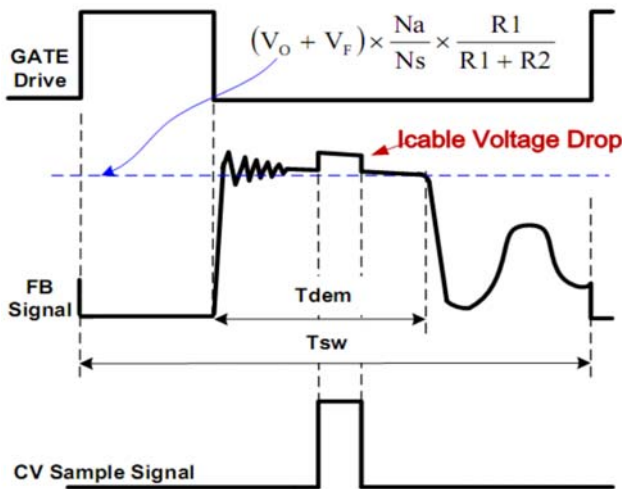

Fig.2
In primary side control, the output voltage is sensed on the auxiliary winding during the transfer of transformer energy to the secondary. Fig.2 illustrates the CV sampling signal timing waveform in U6773S. As shown in Fig.2, it is clear that there is a down slope representing a decreasing total rectifier  $V_f$  and its voltage drop as the secondary current decreases to zero. To achieve an accurate representation of the secondary output voltage on the auxiliary winding, the CV sampling signal blocks the leakage inductance reset and ringing. When the CV sampling process is over, the internal sample/hold (S&H) circuit captures the error signal and amplifies it through the internal Error Amplifier (EA). The output of EA is sent to the PSR Constant Voltage Modulator (PSR-CVM) for CV control. The internal reference voltage for EA is trimmed to 2V with high accuracy.
During the CV sampling process, an internal variable current source is flowing to FB pin for Cable Drop Compensation (CDC). Thus, there is a step at FB pin in the transformer demagnetization process, as shown in Fig.2. Fig.2 also illustrates the equation for “demagnetization plateau”, where  $V_o$  and  $V_f$  is the output voltage and diode forward voltage; R1 and R2 is the resistor divider connected from the auxiliary winding to FB Pin,  $N_s$  and  $N_a$  are secondary winding and auxiliary winding respectively.